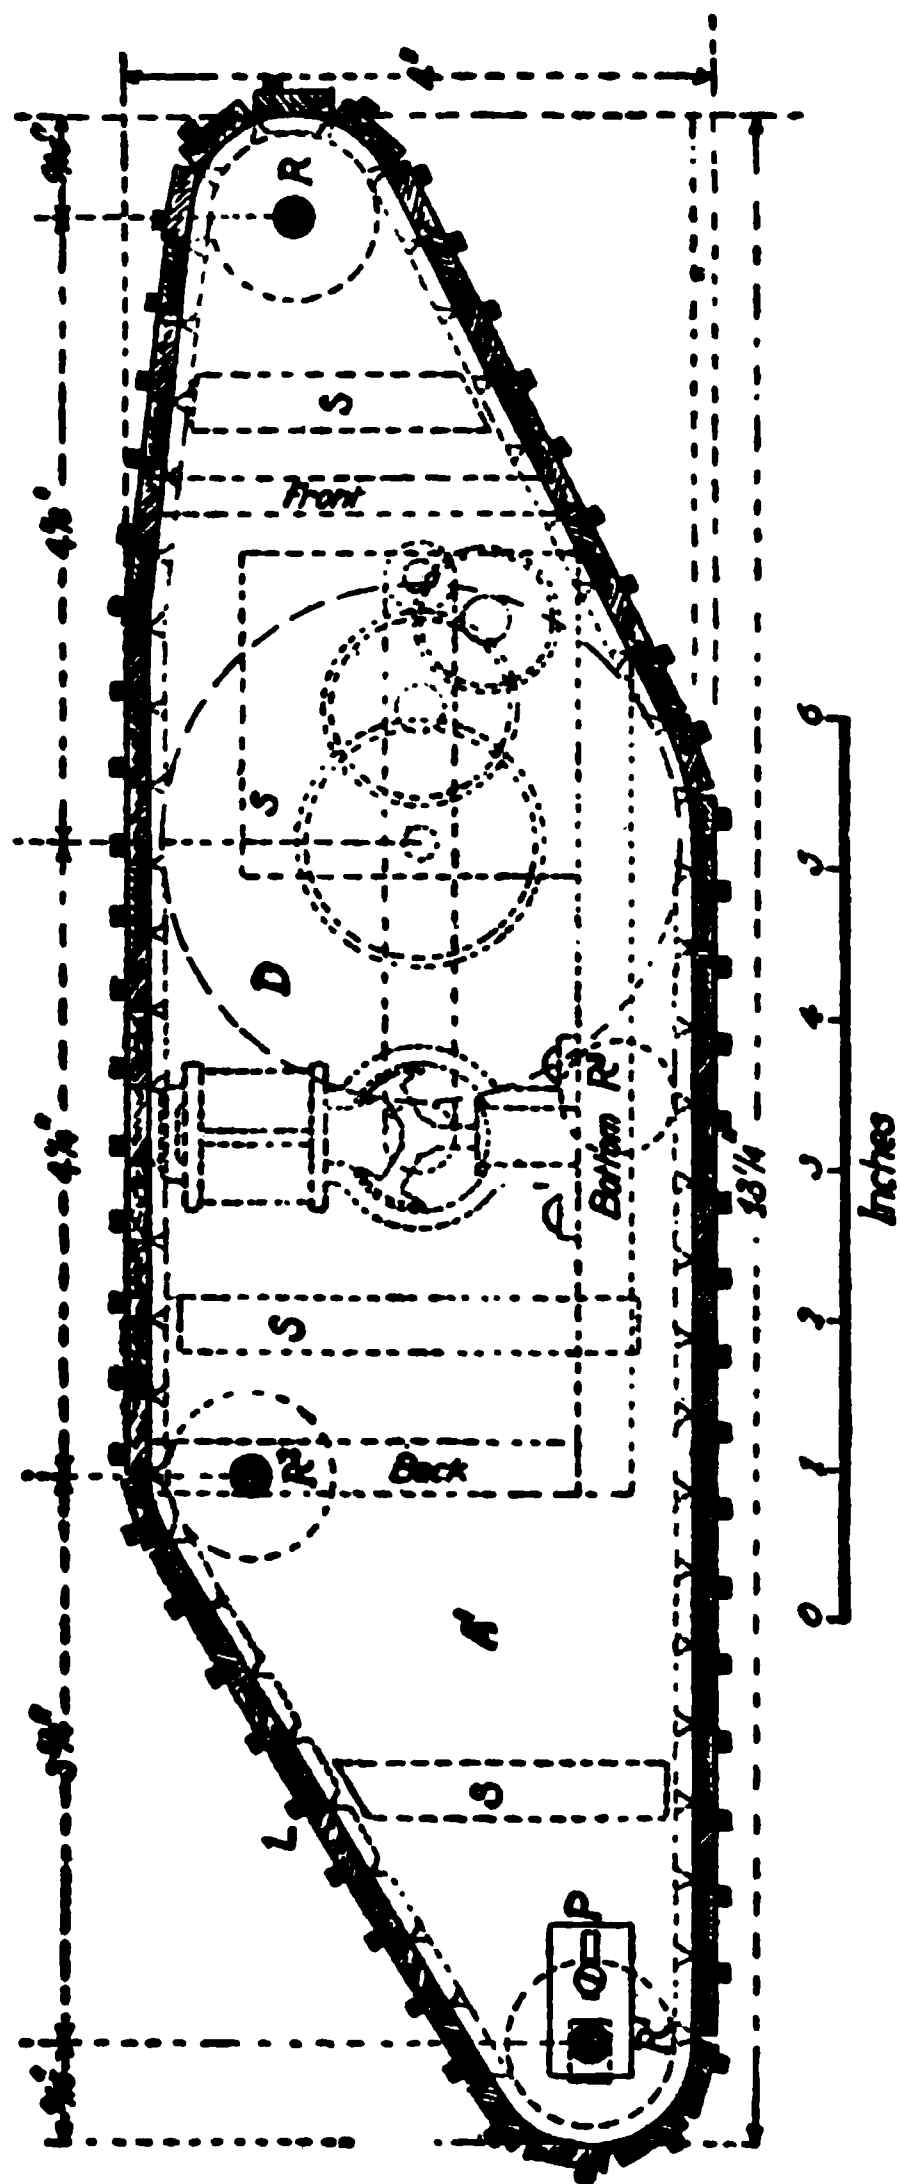

Fig. 101.—Side elevation of model tank.
The general idea of the model is indicated by Figs. 101 and 102, which show it in side elevation and plan. Motion is imparted to the two endless bands or creeper tracks on which the model progresses by a pair of large drums or wheels, driving them by friction. At the nose and tail the bands pass round rollers, and are supported at intermediate points by other rollers. It is important
*The Body.*—This is made of wood. Four pieces A A1, B B1, for the sides, and to carry the tracks, of the shape shown in Fig. 101, should be marked off from the same template—of thin card—and fretsawed out of  $\frac{1}{8}$  to  $\frac{3}{16}$ -in. board just outside the lines. Clamp the four pieces together and work their edges down smooth in one operation. If a small square be used occasionally across the combined edges, this will ensure their being of exactly the same size and shape. Holes are bored in what will be A and B to fit the drum axle.
The diagrams show that the circumference of  $DD^1$  lies slightly inside the edges of  $AA^1$  and  $BB^1$ , since the track plates extend inwards a small distance between the inside edges of these pairs of side plates. (See Fig. 101.)